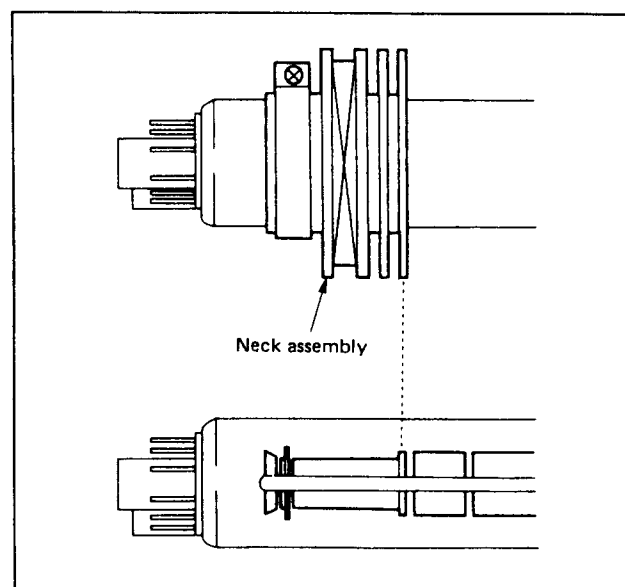

Fig. 2-2-3
- 9) Set the neck assembly (neck twist coil) in the position shown in Fig. 2-2-3.